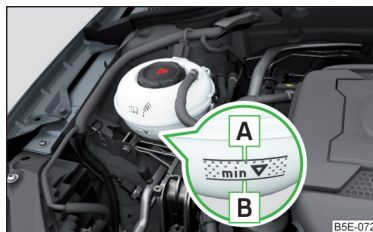

Fig. 318
Check the coolant level - the coolant level must be between the marks **A** and **B** » Fig. 318. If the coolant level is below the mark **B**, refill the coolant.
The **specification** of the coolant is shown on the coolant expansion reservoir» Fig. 318.
- Do not fill the coolant above the mark **A**» Fig. 318. When it heats up, the coolant could press out of the cooling system - there is a risk of damage to the engine parts.